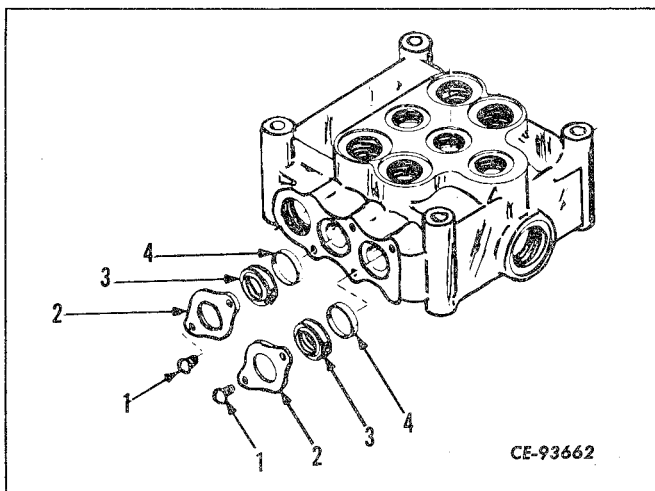

Figure 11-4
Disassemble the seal groups in numerical order (refer to Fig. 11-4).
1. Bucket plunger seal group - refer to Fig. 11-4.
2. Boom plunger seal group - refer to Fig. 11-4.